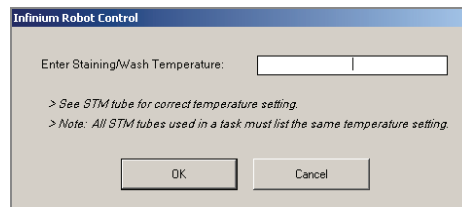

Figure 176 Entering XStain Temperature
- e. (Non-Illumina LIMS only) At the prompt (Figure 176), enter the staining temperature. The correct temperature is listed on the STM reagent label. If no temperature is listed, enter 37°C.
5. (Illumina LIMS only) At the prompt (Figure 176), enter the staining temperature. The correct temperature is listed on the STM reagent label. If no temperature is listed, enter 37°C.